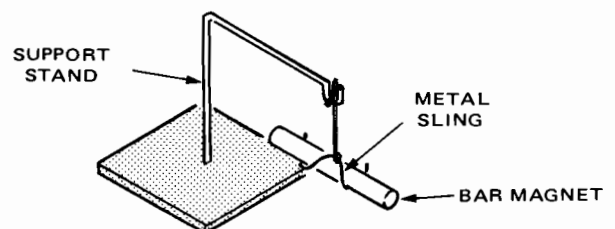

Fig. 6-1-1
5. Make a small sling out of a piece of scrap wire or a paper clip (to hold magnet). See Fig. 6-1-1. Tie a piece of string to sling and attach it to a support stand. Place bar magnet in sling.